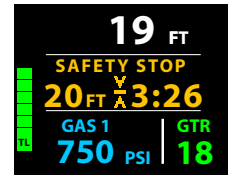
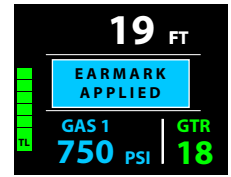

Fig. 45 - SS MAIN (Stop Depth/Time set ON)
Fig. 46 - SS MAIN (during 3 sec message)
SAFETY STOP (SS) MAIN, information includes (Fig. 45):
- > TLBG (TL).
- M (< 2 sec) - to apply a snapshot Earmark to the PCI data recorded at that time. *The graphics EARMARK APPLIED will be displayed in place of Stop information for 3 seconds (Fig. 46).*